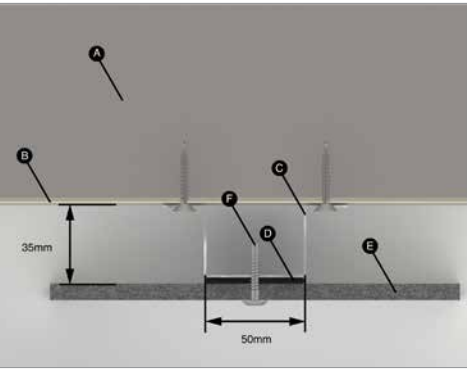

FIGURE 4.
Genesis Façade Gasket Tape is also applied to the Genesis Intermediate Top Hat to assist with movement and minimize any vibration in the panels (see Figure 4).
- If the small cut outs are no wider than 150mm, they can be mounted with one rivet fixing in the middle of the board width (see Figure 4).